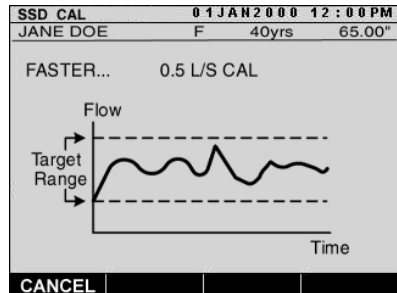

Figure 12: SSD CAL
7. The dotted lines appearing on the display represent the upper and lower limits for the flow rate. While pushing the plunger in, the graph will develop on the display. Try to keep the graph within the dotted lines. The “SSD CAL” screen will prompt faster/slower if necessary, (Figure 12). Repeat until you are prompted to proceed.